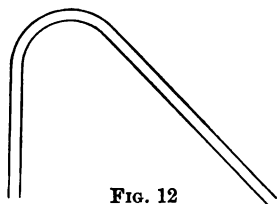

FIG. 12
71. Bend a tube at an acute angle, making one arm twice as long as the other. Fill this with water, covering one end. Hold it as in Fig. 12, both ends being *exactly* on the same level. Release the closed end and state the result.